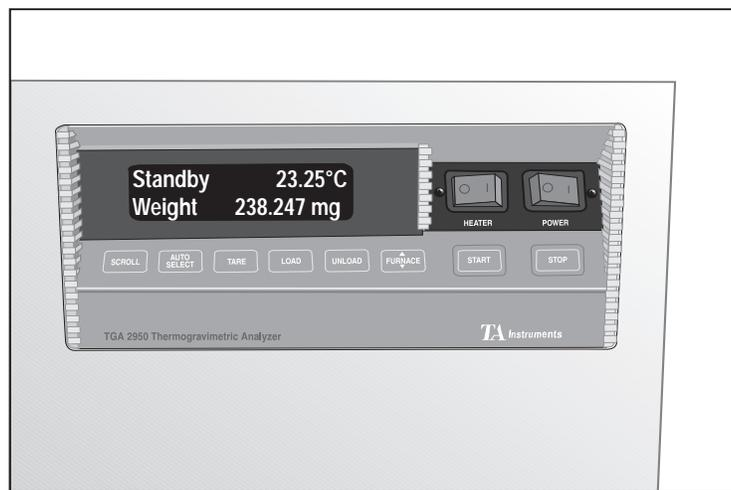

Figure 1.2
The TGA instrument display is the lighted area of the keypad (Figure 1.2). It contains two rows of 20 characters each.
The instrument keypad (see Figure 1.2) contains the keys found in Table 1.1 and the HEATER and POWER switches.
The HEATER on/off switch (see Figure 1.2) turns the power to the instrument heater on and off. This switch should be in the ON (1) position before you start an experiment.
The POWER switch (see Figure 1.2) turns the power to the instrument on and off.